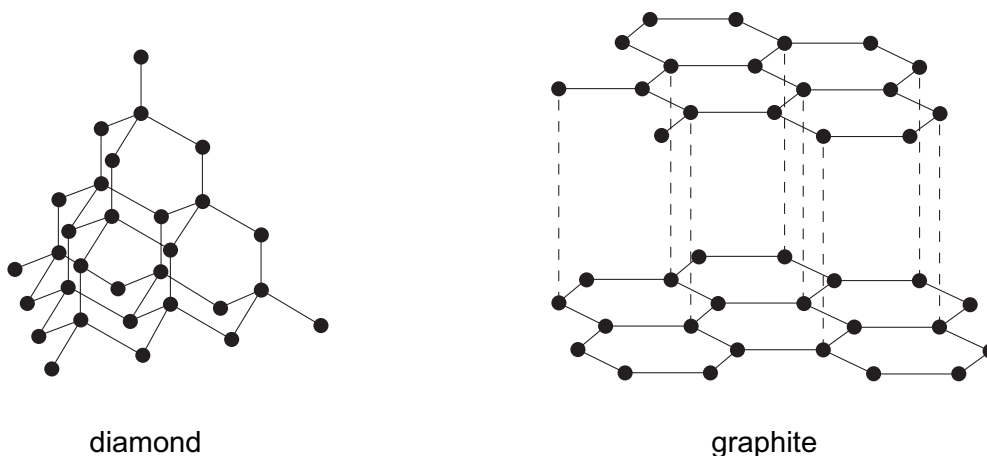

Fig. 6.1
- 6 (a) Fig. 6.1 shows the arrangement of atoms in diamond and graphite.
- (ii) Use the structures in Fig. 6.1 to explain **one** of the differences you described in (a).